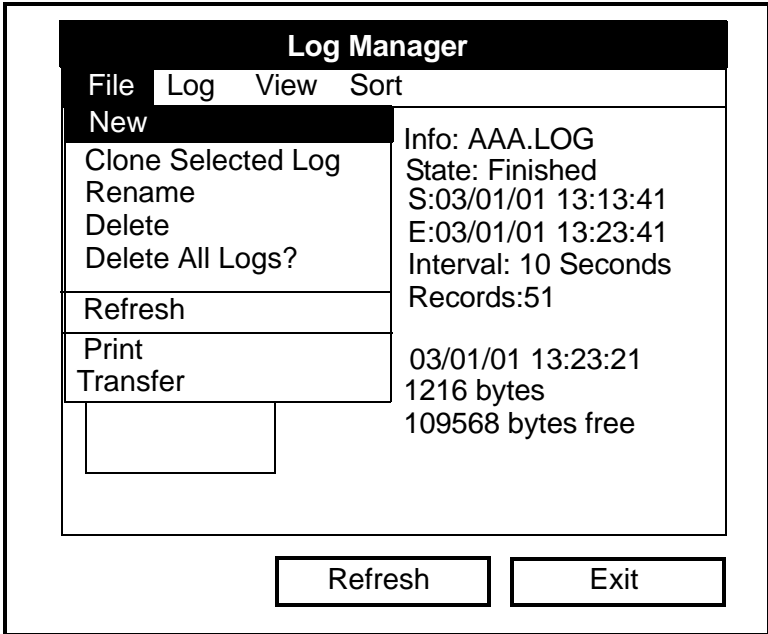

Figure 7-3: File Menu in the Log Manager
The File menu allows you, not only to create new logs, but also to copy, rename or delete logs, as well as to print them or transfer them to a PC. To open the File Menu from the Log Manager, press the [MENU] key and then [ENTER]. The screen appears similar to Figure 7-3 below.
- by scrolling to the New option in the File Menu of the Log Manager (as shown in Figure 7-3 on page 7-4) and pressing [ENTER].